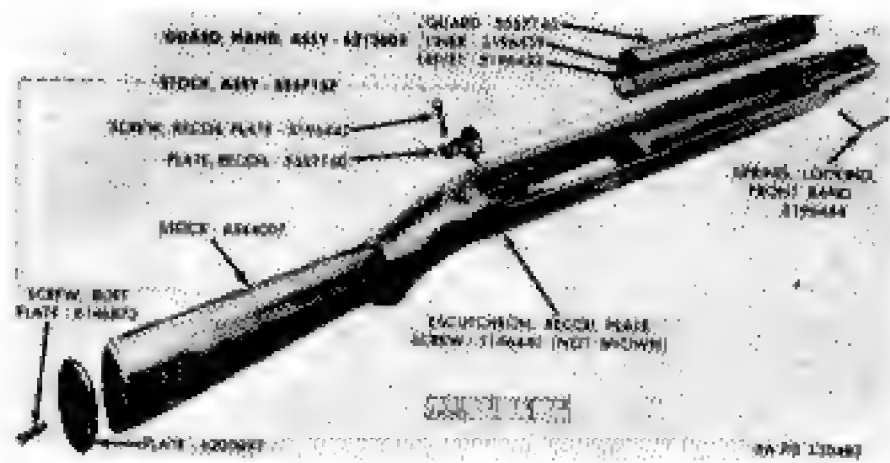

Figure 93. Stock and guard assemblies — carbine M1.
*a. Front Band Locking Spring* (Figs. 93 and 94). Insert small, straight punch in spring spindle hole in left side of forward end of stock and drive out front band locking spring part way, from left to right; then rotate spring and pull from hole.
*b. Recoil Plate* (Figs. 93 and 94).
- (1) Inscrew recoil plate screw counterclockwise until clear of escutcheon
- (2) Loosen recoil plate by tapping lightly on rear top face with a metal tool. Pull plate directly forward out of seating recess in stock. Do not pull up or down, because rear seating lug on plate seats in a horizontal recess cut in the stock.
- (3) Do not remove the recoil plate screw escutcheon from the stock except for replacement. To remove, thread recoil plate screw into the escutcheon from the underside until all of the threads of the escutcheon are engaged and pull escutcheon out of stock. If withdrawal is difficult, insert small straight punch from top of screw hole in stock and tap end of screw lightly to loosen escutcheon, or thread screw in from top, part way, and tap lightly; then proceed as above.
*c. Butt Plate* (Figs. 93 and 94). Unscrew butt plate screw counterclockwise and remove from stock. Loosen butt plate by tapping it lightly. Pull to rear off stock. If butt plate is tight, do not pry off, as stock is likely to be damaged. Tap on edges lightly all the way around, until loose enough to pull from stock.
*d. Hand Guard* (Figs. 93, 94, and 96). The liner of the hand guard assembly is riveted to the hand guard; do not remove it.
*b. Loose Rivets in Hand Guard Liner.* — A hand guard liner (Figs. 93 and 94) indicates improper spreading of the rivets. These rivets are tubular; tighten them by spreading the hollow (inner) ends with a blunt punch. Support the opposite (beaded) end of the rivet while riveting. Place rivet head on a small steel rod or punch clamped in a vise.